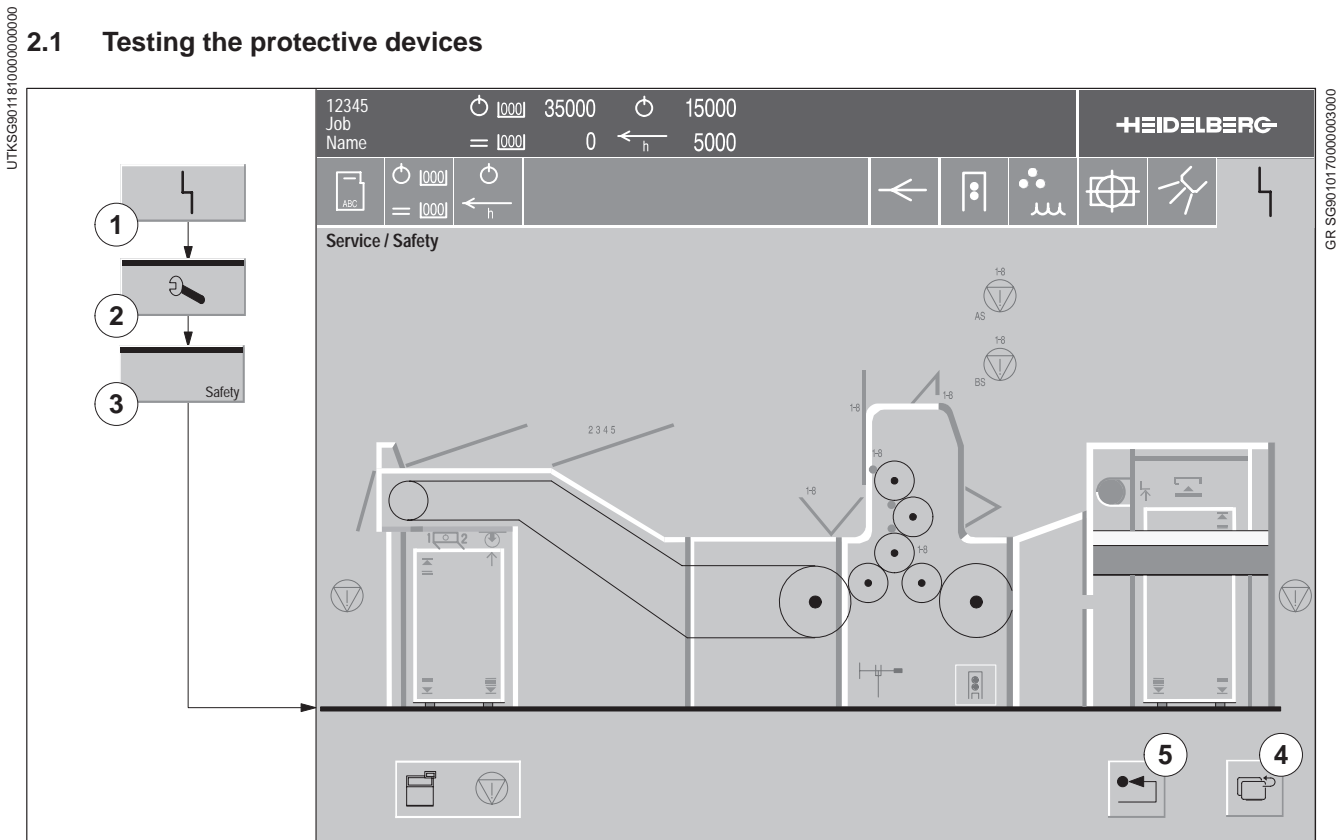

Fig. 1 Service/safety menu
1. Press the *Malfunction* button (Fig. 1/1) in the banner line. The **Malfunction** menu appears.
2. Press the *Service* button (Fig. 1/2). The **Service** menu appears.
3. Press the *Safety* button (Fig. 1/3). The **Safety** menu (Fig. 1) appears.
1. Press the *Reset* button (Fig. 1/5). The test is initialized so that it can be repeated completely (after an interruption, for example).